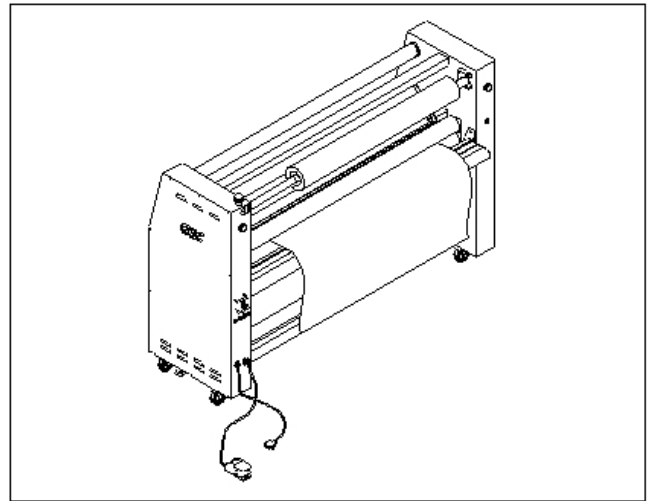

Fig 3
3. The laminator should be positioned to allow exiting film to flow freely to the floor (Figure 3) or a work table. Accumulation of laminate immediately behind the laminator as it exits the equipment may cause the film to wrap around the pull rollers, resulting in a "jammed" condition.